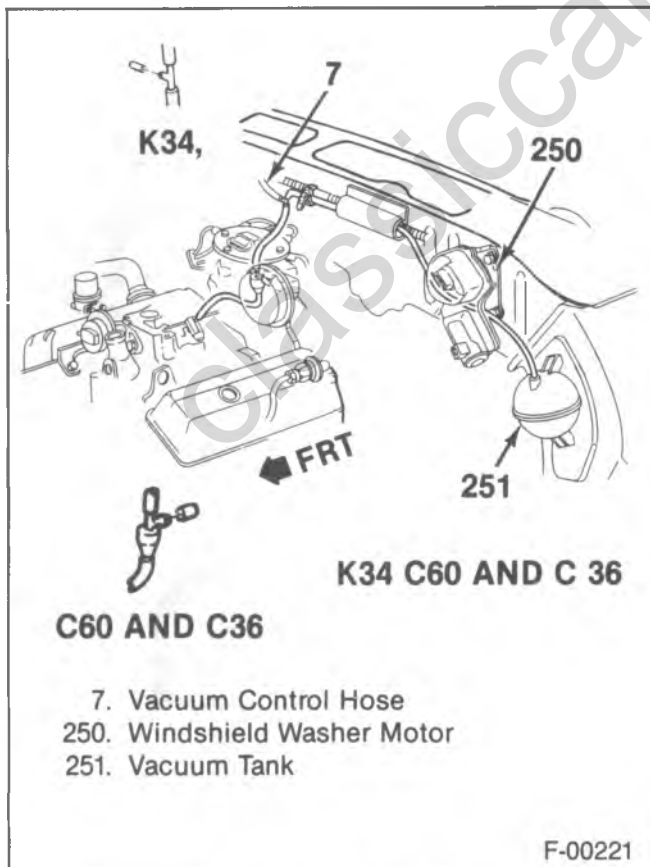

Figure 42—Vacuum Hose — 4.3L Engine
↔ Remove or Disconnect (Figures 42, 43 and 44)
→ Install or Connect (Figures 42, 43 and 44)
For vacuum line routing, refer to figures 42, 43 and 44.
1. 4.3L engine (figure 42).